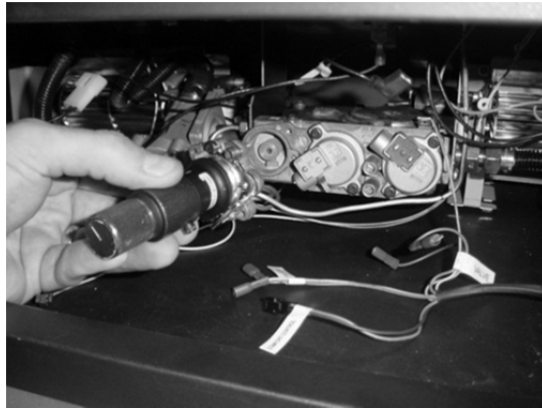

Figure 15
- 9 Use the included torx wrench to remove the stock regulator (see Figure 15). These items may be discarded.